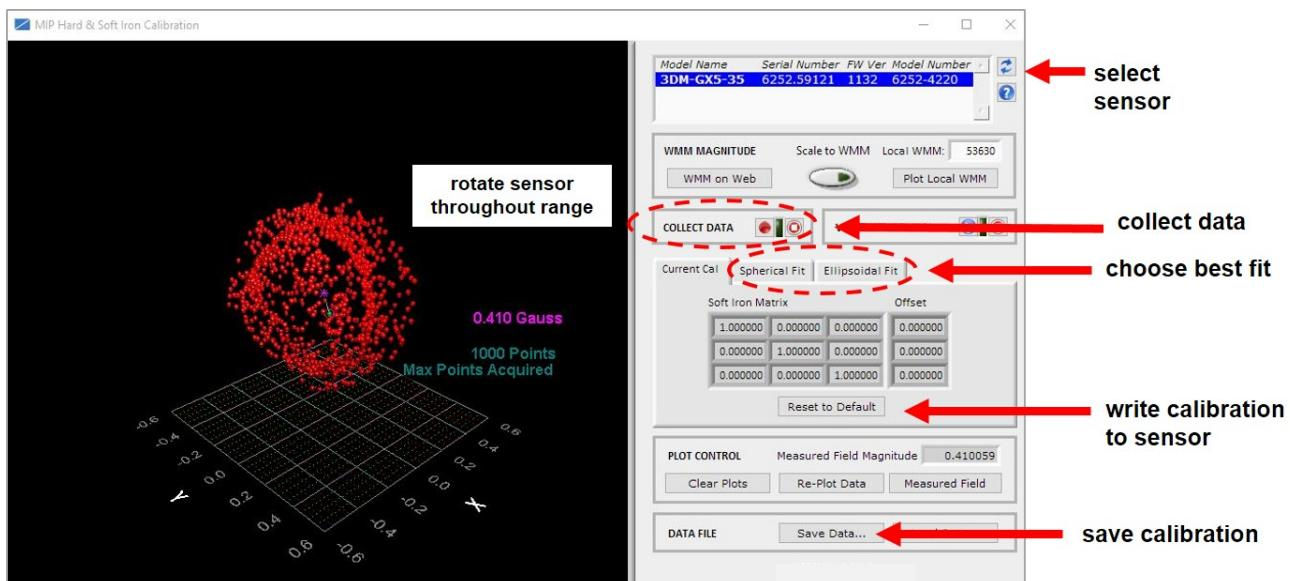

Figure 21 -Collect Calibration Data
6. Click the Spherical Fit or Ellipsoid Fit button, depending on the application (Figure 21 - Collect Calibration Data). Spherical Fit is often best for applications with calibration rotations restricted to a 2D plane: for example, a ground vehicle or a boat, because it will not likely not be rotated on all three axis. Ellipsoid Fit is generally a better correction when soft iron effects are present but only if enough data points can be collected in all quadrants. If the range of motion is restricted in one dimension, the Spherical Fit may be